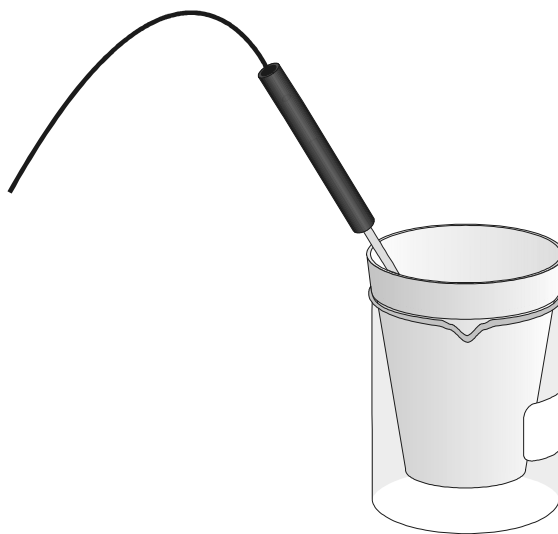

Figure 1
5. Measure out precisely 25.0 mL of the 0.50 M NaOCl solution. Pour this solution into a Styrofoam cup and nest the cup in a beaker to help stabilize the cup (see Figure 1).